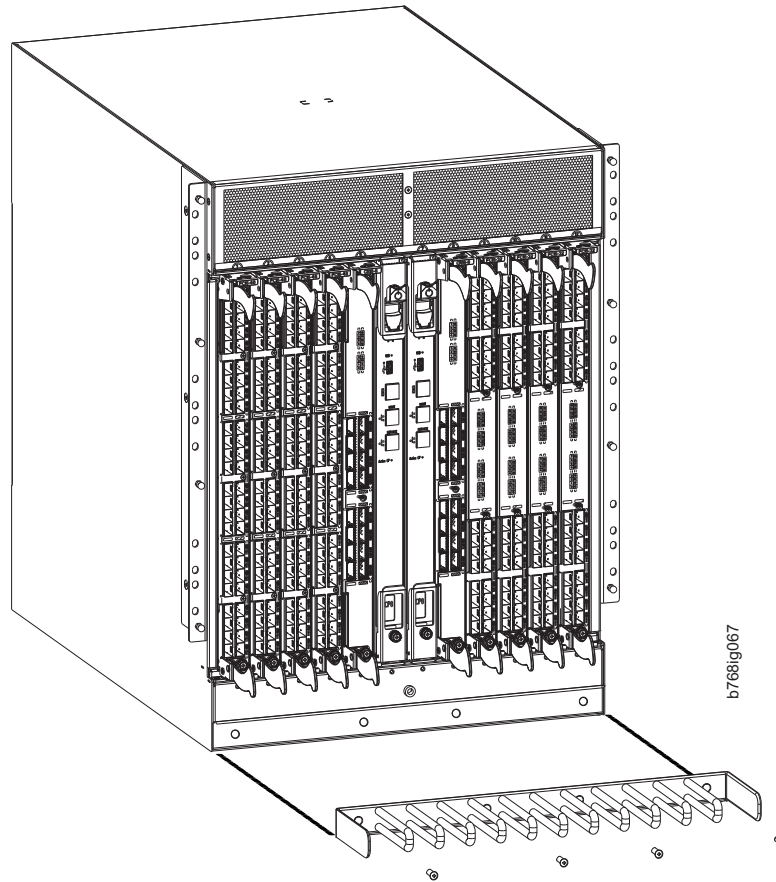

Figure 24. Cable management comb
3. Unscrew and save the four screws holding the comb to the chassis (see Figure 24). Support the comb to prevent it from falling.